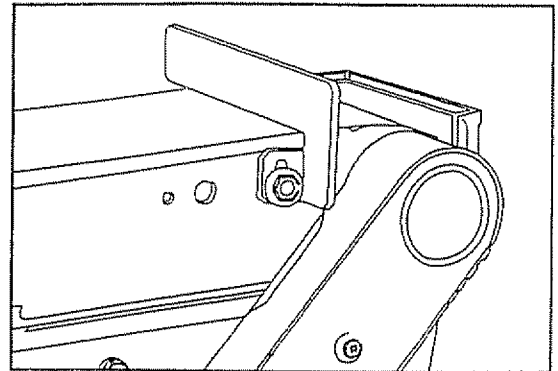

Fig. 9
■ Mounting the backstop (see figure 9)